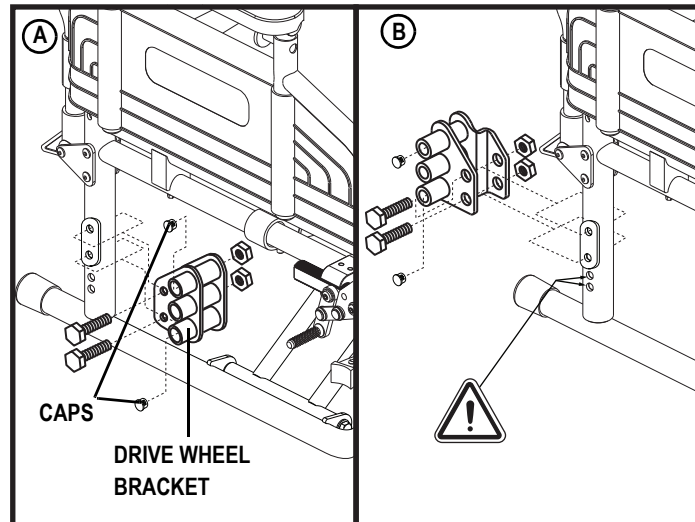

Figure 14. Drive Wheel Position Adjustment
2. Remove the hardware that fastens the drive wheel bracket to the frame. **See figure 14.**